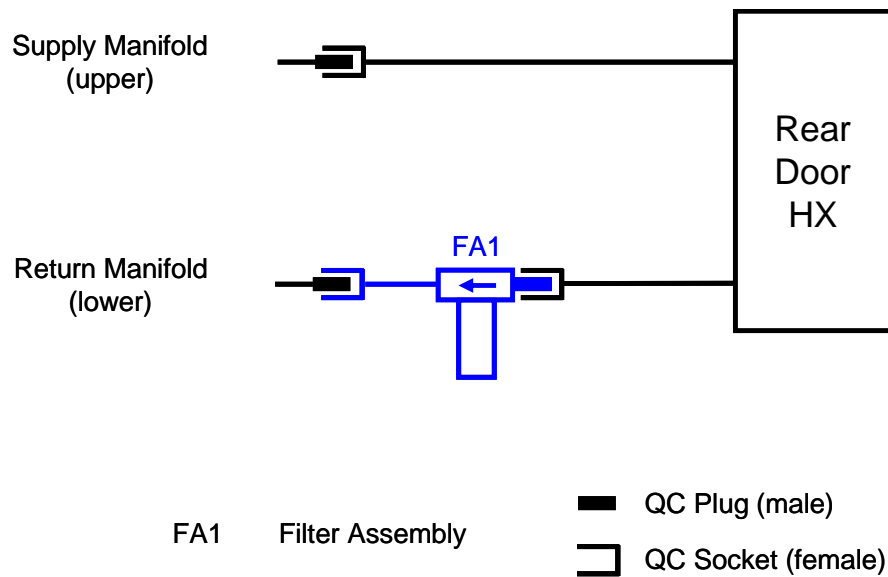

Figure 6 Schematic of filter assembly connected to frame
3. Figure 6 is a schematic that shows how the filter assembly (FA1) can be attached to the return hose on the RDHX and the return manifold connections. The filter is used in this configuration to filter debris and contamination from the water circulating through components in the frame.